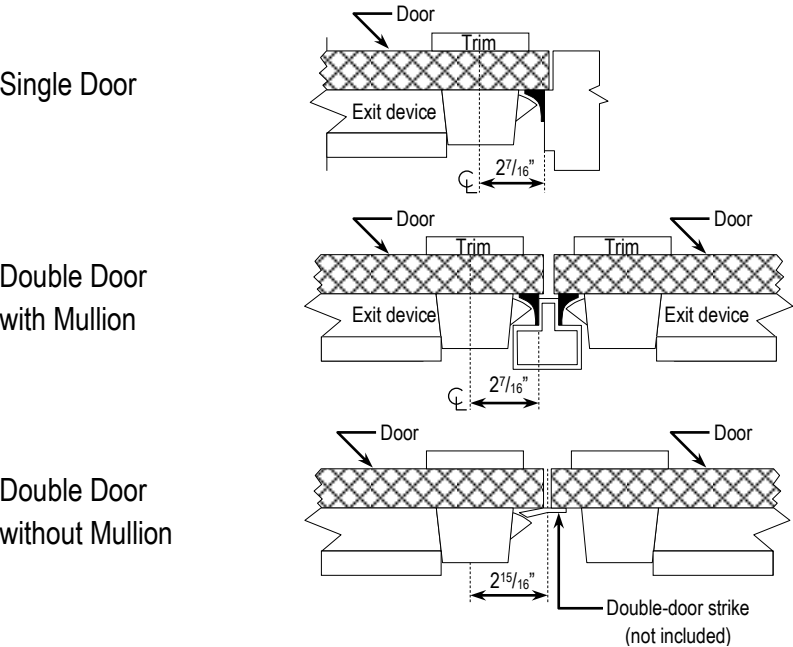

Fig. 4 – Mounting Location
1. Mark the vertical center line of the exit bar by drawing a line across the door at 40" above the floor. See fig. 4.